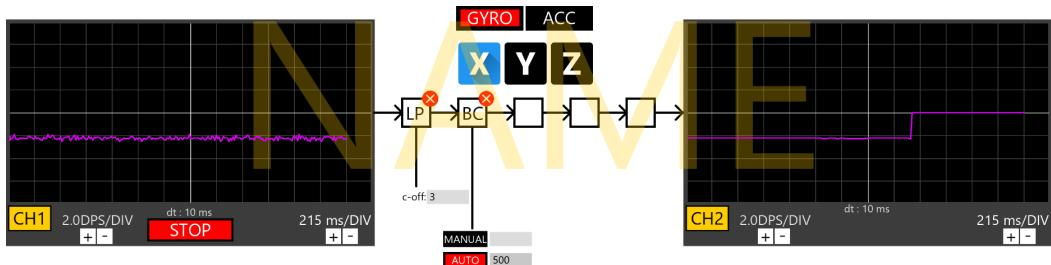

Figure 1.24: The second filter block for a gyroscope can be set to be a bias compensation (BC) with an input of 500 measurements.
The gyroscope is needed to get angle measurements. Since the gyroscope outputs angular velocity measurements, which are in units of $[\text{°}/\text{s}]$, integration is needed to obtain angles $[\text{°}]$. As mentioned before, gyroscopes suffer from significant bias-offsets, and integrating such measurements will result in ever-increasing errors, even for a gyroscope in rest on a perfectly flat table. To prevent this problem from happening, this bias-offset has to be removed, by either using a bias compensation (BC) or a high-pass filter (HP). The difference between the two being that the former is static, while the latter is dynamic. This means that a bias compensation would not adapt itself were the bias-offset to change, while the high-pass filter would. Even though the offset of a gyroscope can change with increasing sensor temperature, this change is negligible, and a bias compensation can thus still be used. Compared to a high-pass filter, using a bias compensation is easier, because for a good result it suffices to input the amount of measurements that it will take to calculate the average. While the cut-off frequency of the high-pass filter will require adjustments. The use of a bias compensation for gyroscope readings is shown in figure 1.24, where 500 readings are inputted for the bias calculation.